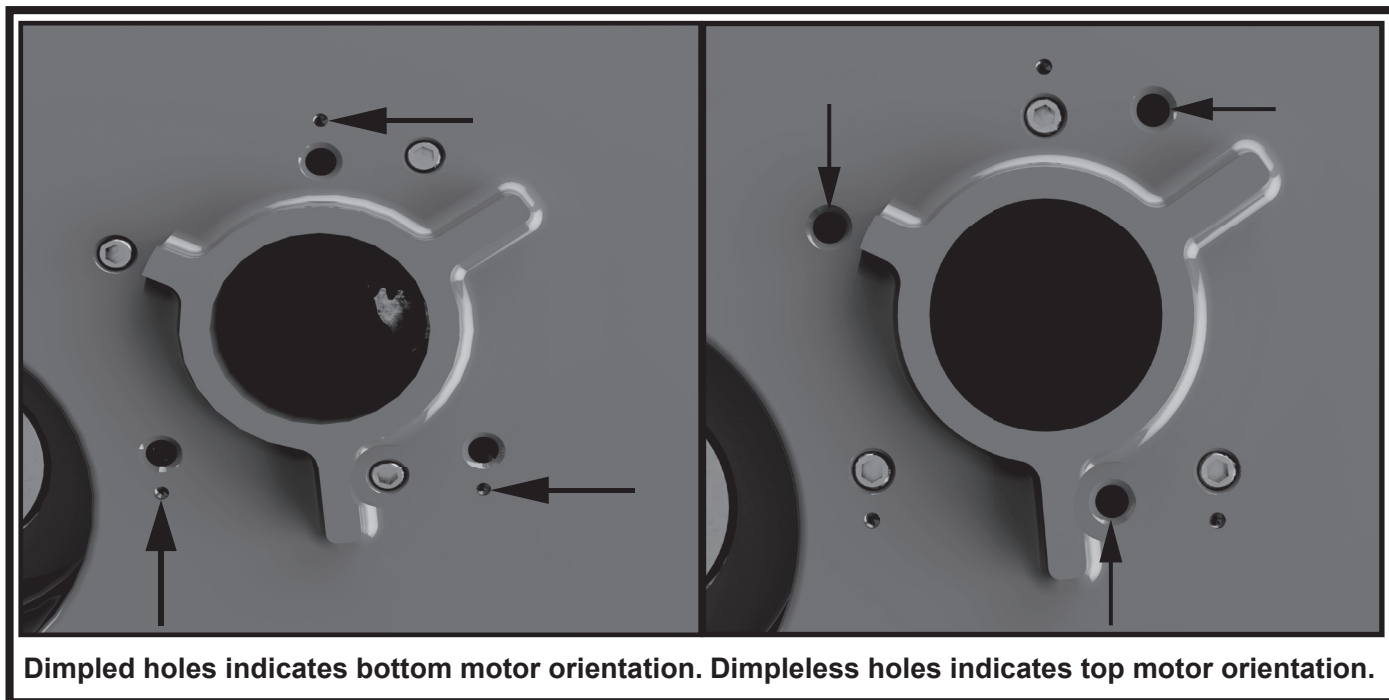

Figure 7. Martin® Gen 4 Railcar Opener Motor Hole Orientations
5. Remove the set screws from the intended orientation, placing the screws into the unused orientation. (Refer to Figure 7.) Reinstall the air motor making sure to use the dimpleless holes for the top motor orientation, the dimpled holes for bottom motor orientation. (Refer to Figure 8.)